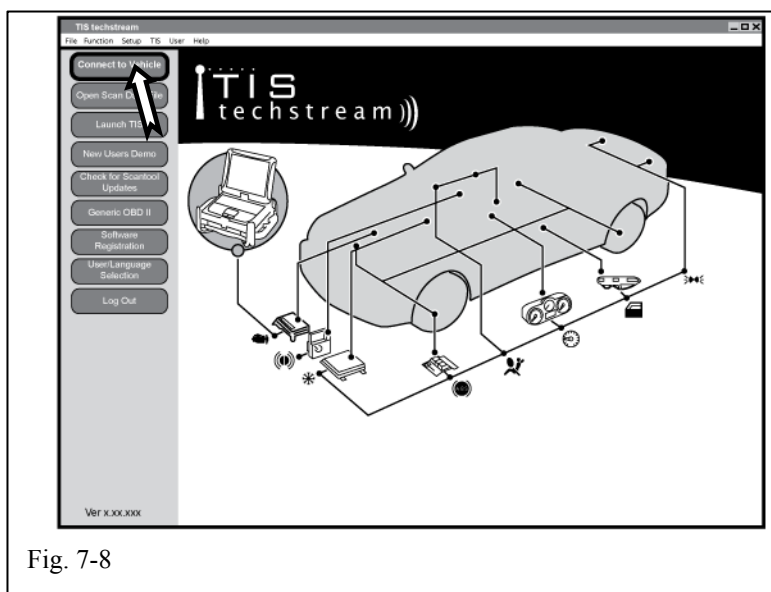

Fig. 7-8
- (p) Click "Connect to Vehicle." (Fig. 7-8)